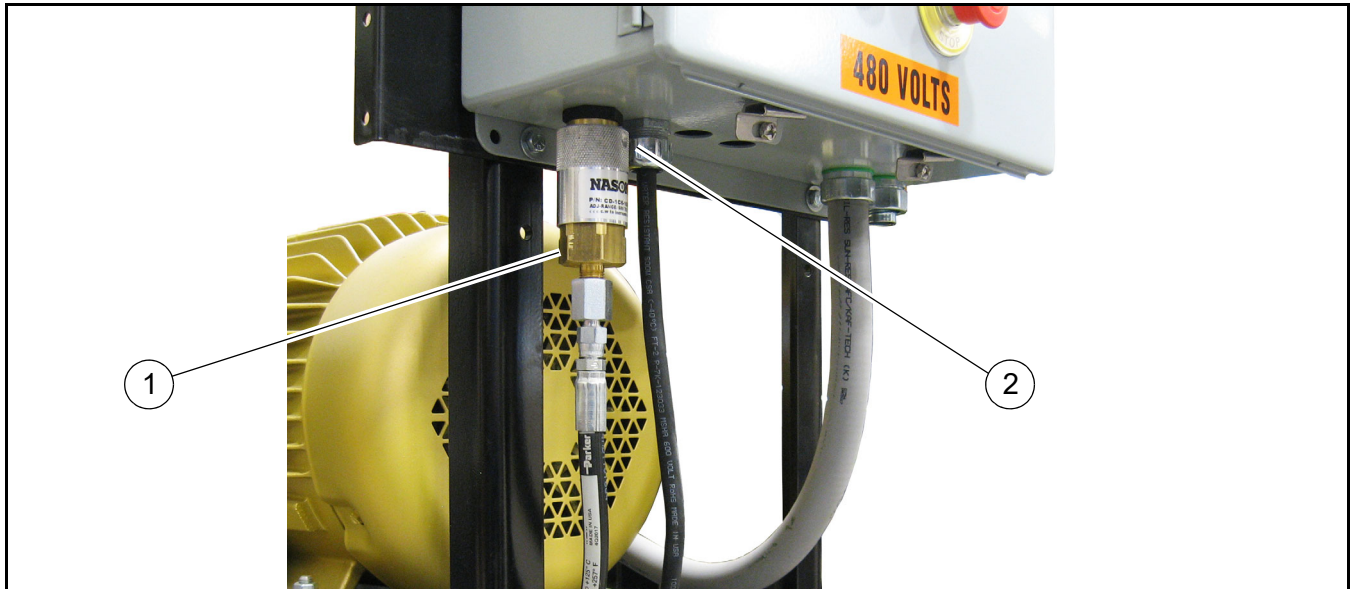

Figure 46
2. Locate the pressure switch (**Figure 46, 1**) installed below the control panel on the Power Pack.
3. Remove the locking screw (**Figure 46, 2**) from the switch to enable the switch to be adjusted.